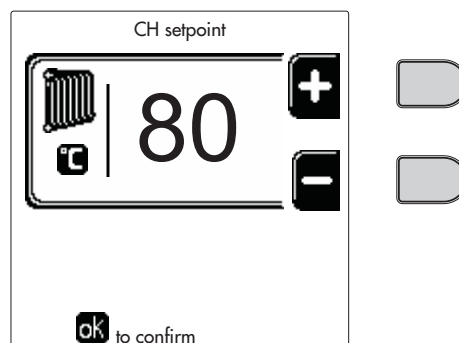
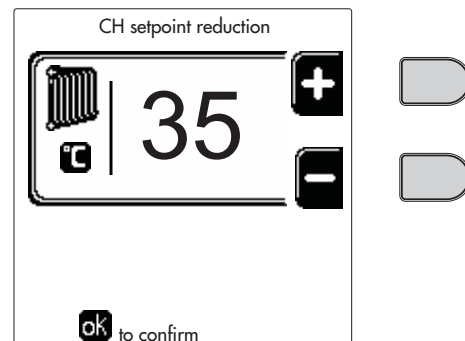
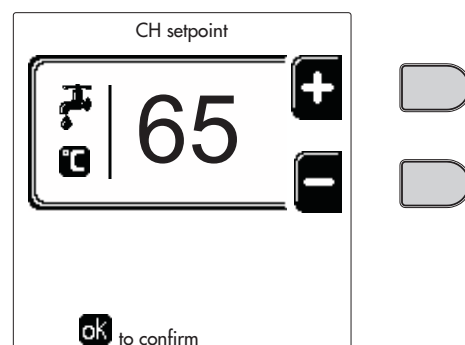
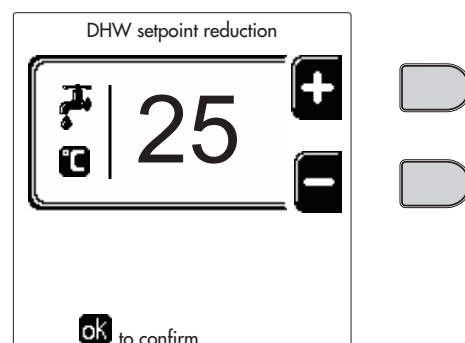

fig. 13
fig. 14
fig. 15
fig. 16
- **ON**. In case of a Heating/DHW request, the boiler works at the set Heating/DHW Adjustment Temperature (fig. 13/ fig. 15).
- **re**. In case of a Heating/DHW request, the boiler works at the Reduced Adjustment Temperature. The Reduced temperature is obtained by subtracting the Reduction Adjustment Temperature (fig. 14/fig. 16) value from the set Heating/DHW Adjustment Temperature (fig. 13/fig. 15).